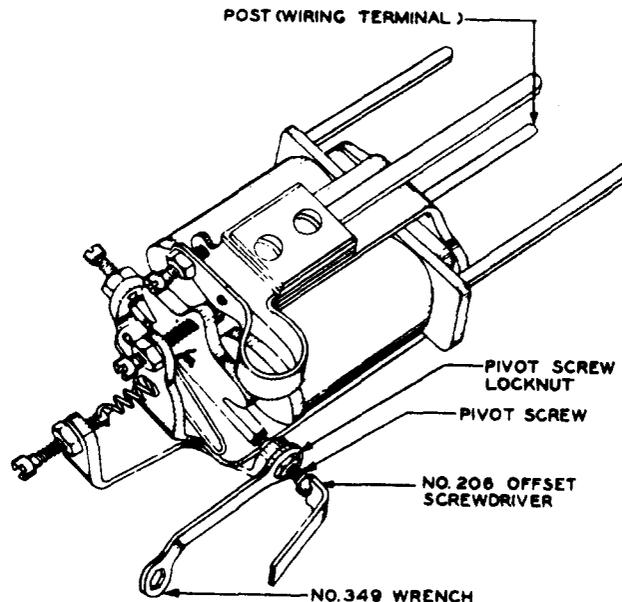

Fig. 5 - Method of Tightening Locknuts
- (1) To tighten loose mounting screws, use the 4-inch regular screwdriver.
- (2) If the cores are loose, remove the relay from the mounting plate, and in the case of 213-type relays, remove the cover spring assembly. Tighten the screws in the cores with the 3-inch cabinet screwdriver.
- (3) If the post (wiring terminal) shown in Fig. 5 is loose, tighten it by grasping the round portion with the P-long-nose pliers and turning it until it is secure in the frame. Do not grasp the post at the flat portion because the sharp edge of the pliers may shear off the wire.
- (4) After mounting a relay or tightening loose mounting screws, check the unoperated armature gap and the separation between the armature disc and backstop screw and if necessary readjust as outlined in 3.08 to 3.12.
- (1) To tighten loose locknuts, except the pivot screw locknuts, use the smaller end of the wrench portion of the No. 48 combination wrench and screwdriver holding the screws in position with the screwdriver portion.
- (2) To tighten the pivot screw locknuts, use the No. 349 wrench holding the screws in position with the Nos. 206 and 207 offset screwdrivers as shown in Fig. 5.
(5) To facilitate meeting the electrical requirements, it is desirable that the sideplay of the armature be kept as small as possible.
(6) If it is necessary to readjust for armature movement, replace the armature and pivot screws with pivot screws having hexagon heads and proceed as outlined in (7). Then proceed as outlined in (10).
(7) Loosen the right-hand pivot screw locknut with the No. 349 wrench enough to permit turning the pivot screw with the fingers. Turn the pivot screw out until there is a noticeable sideplay of the armature. Then turn the pivot screw in with the fingers a little at a time until the sideplay is entirely eliminated, and tighten the locknut finger tight. Then while holding the screw and locknut as shown in Fig. 5, back off the pivot screw approximately 15 degrees (equivalent to 1-1/4-inch movement at the hand end of the Nos. 206 and 207 offset screwdrivers). Tighten the locknut while holding the pivot screw in place. A sideplay of approximately 0.001 inch is ideal. If the sideplay is not satisfactory, loosen the locknut with the No. 349 wrench and turn the pivot screw as required with the Nos. 206 and 207 offset screwdrivers and then tighten the locknut.